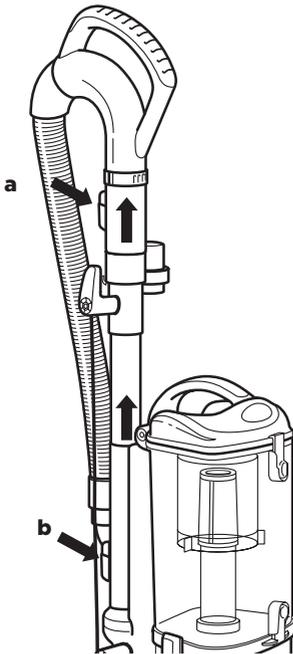

Fig. 12
- 2 To clean with the handle, press the Handle Release button **(a)** and lift the handle out of the wand. To clean with longer reach, press the Wand Release button **(b)** and lift off the wand. **(Fig. 12)**